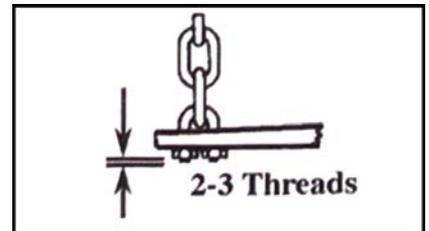

Figure 11: Let 2-3 threads of u-bolt through the bottom of each lock nut.
•Assemble the lift chains 7 to the tapered ends of each spring bar using the 3/8" u-bolts 8, 3/8" flatwashers 9, and the 3/8" hex locknuts 10. Let two or three threads of the u-bolts extend out through the bottom of each locknut. The chain must be free to move in the u-bolt (see Figure 11).